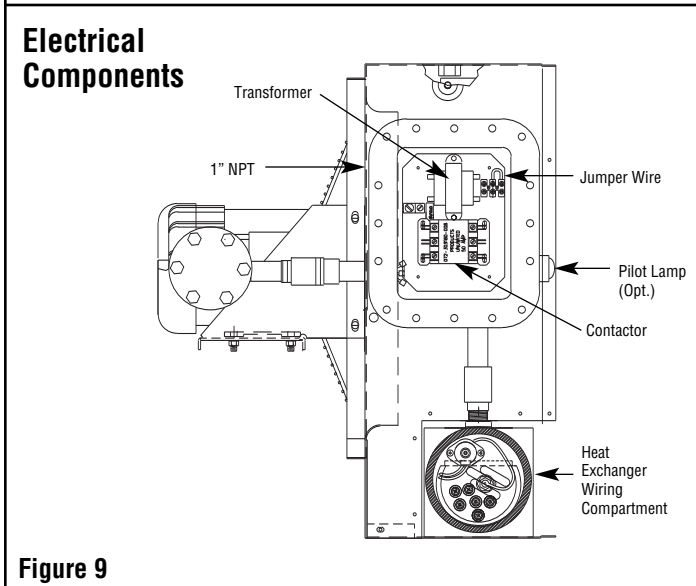
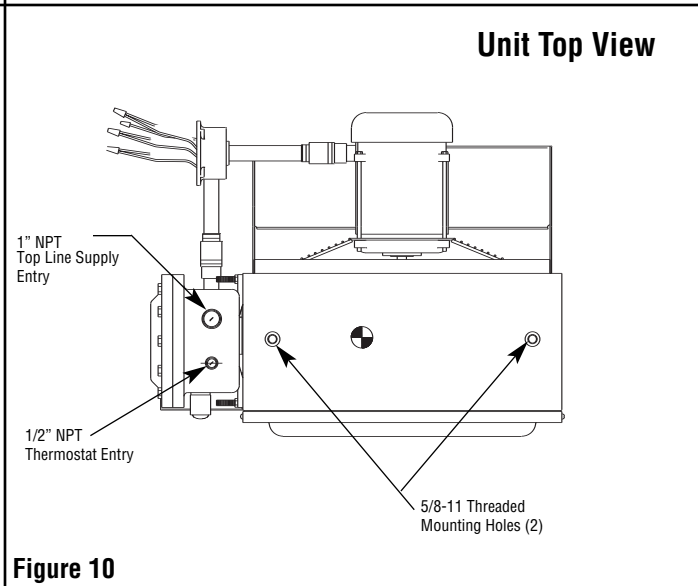

Figure 9
Figure 10
- Loosen and remove bolts securing the main terminal enclosure cover on side of unit. Connect heater to line supply wires at the box lugs located on the contactor according to the voltage and frequency specified on the nameplate (see Figure 9). Refer to the appropriate wiring diagram which also appears on the inside cover of this enclosure (see Table B and diagrams on page 6).
- Either of two 1 NPT rigid conduit openings with integral stops may be used for connection to supply line. (See Figure 9 and 10 for locations) Use only NEC approval hazardous locations means of wiring such as mineral insulated cable and fittings or rigid conduit and seal fittings located as required by installation codes.
- To operate heaters from an externally mounted hazardous location thermostat, a terminal block is provided for connection (Figures 9 and 10). Remove the factory installed jumper across T2 and T3 on the terminal strip. Wire the thermostat contact leads to these terminals. The built in control transformer supplies the unit with either 24V or 120V for internal unit operation. This voltage will appear across the thermostat contacts when they are open. The minimum thermostat contact rating should be 1 amp @ 120 VAC. Refer to nameplate for control voltage of unit. The 1/2 NPT conduit wiring entry on top of the terminal enclosure should be used to wire the thermostat to the heater (Figure 10).
- Protection against overheating is provided by a manual reset limit control located within the heat exchanger wiring compartment. (Figure 9) Activation of the control will open the control circuit and energize the pilot lamp (if supplied). If normal airflow is restricted, or stopped, the unit will be cycled off by the manual reset cutout. The manual reset limit control is also designed to shut down the unit completely if the fluid level is low or other heater malfunction occurs.